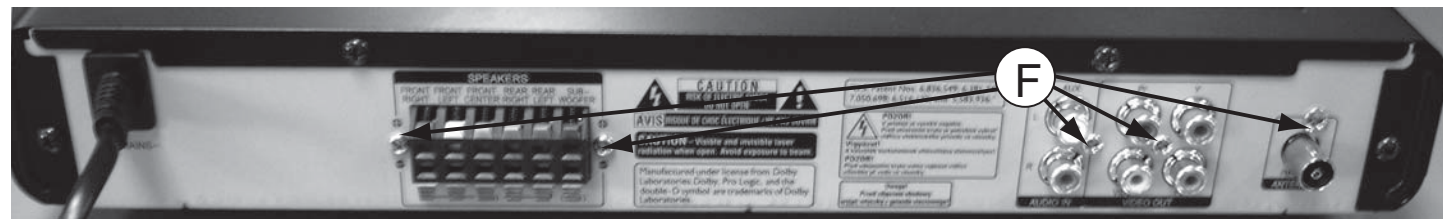

Figure 9
- 2) Loosen 5 screws "F" at the back panel as shown in figure 9.